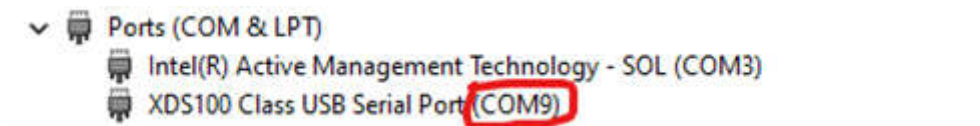

Figure 2-2. Identify the COM Port Number
Step 3: Find the XDS100 port number in PC Management: When the USB cable for the launchpad gets connected to the PC it assigns it to a COM Port. Figure 2-2 shows COM9 assigned to the launchpad debugging interface in the Device Manager of Windows 11. COM9 is only used as an example for the following steps. Note down the COM port number of the setup.